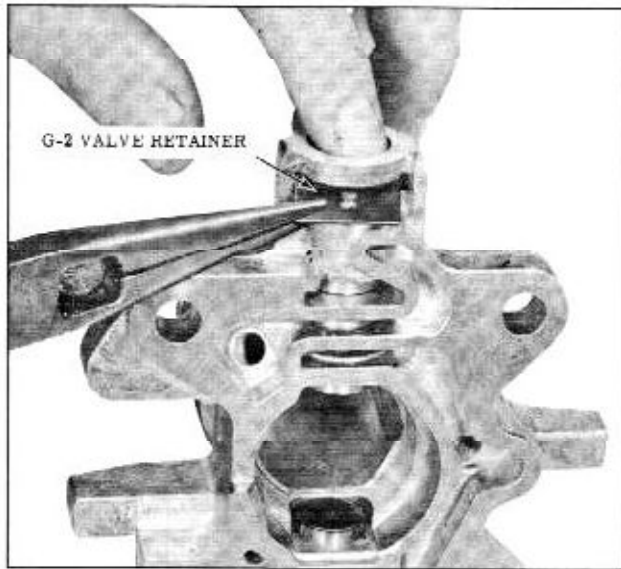

Fig. 3-73 Removing Retainer
1. Compress tang of G-2 plug retainer and remove. (Fig. 3-73)